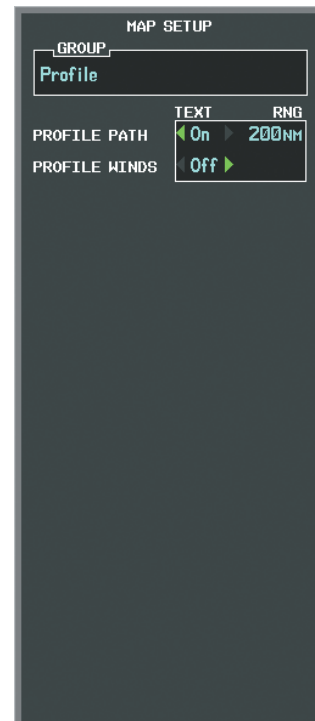

Figure 6-169 Navigation Map Page Setup Menu, Profile Group
- 5) Turn the large **FMS** Knob or press the **ENT** Key to scroll through product selections (Figure 6-169).